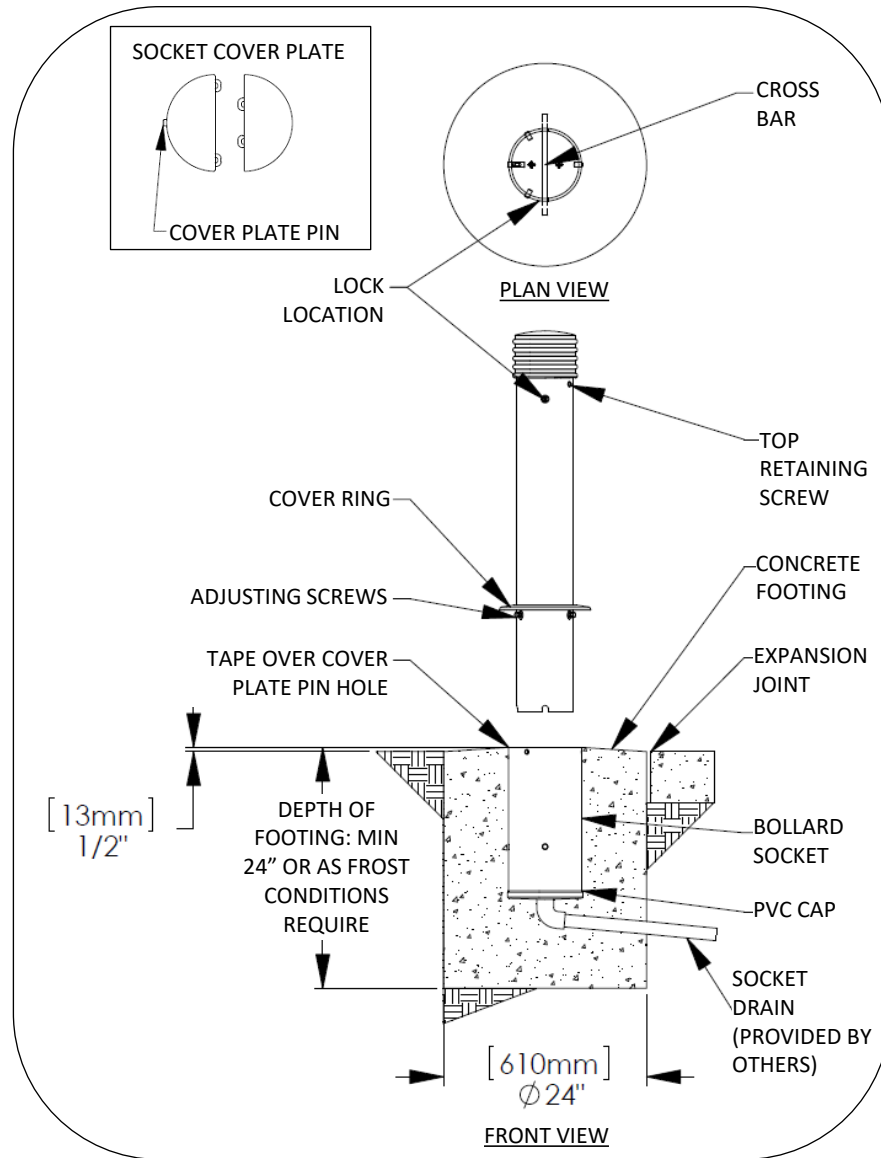

FIG. 8 - REMOVABLE BOLLARD ASSEMBLY
1. Excavate for socket footing and install drain, see Fig. 8. Depth of socket is 18 inches. Depth of footing is minimum 24 inches or as frost conditions require.
4. Place cover plate half with pin into socket, see Fig. 8. Place second half into socket.